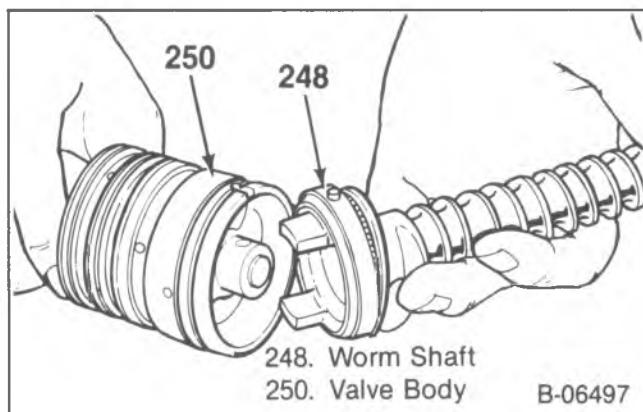
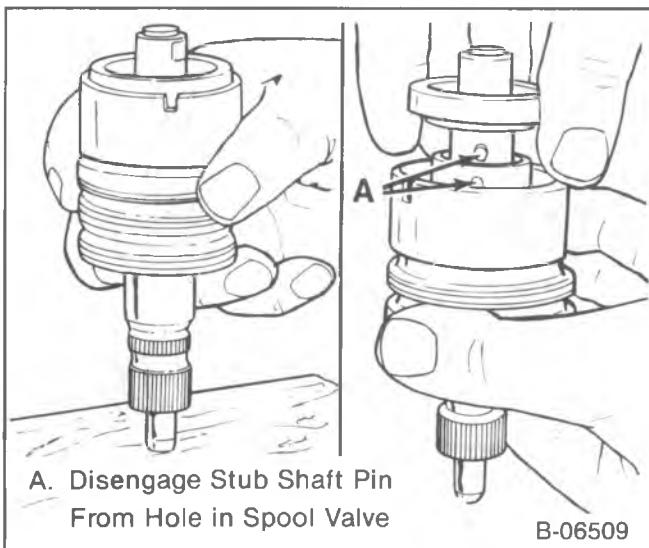
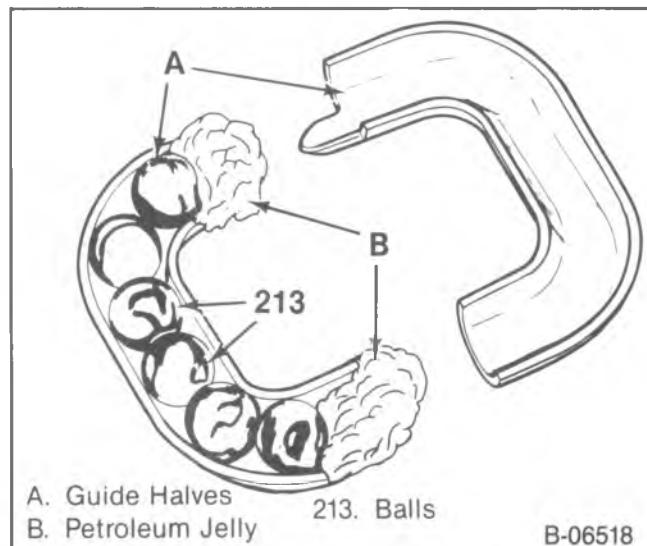

Figure 9—Separating the Wormshaft from the Valve Assembly
Figure 10—Removing or Installing the Stub Shaft Assembly
Figure 14—Retaining the Balls in the Ball Guide
13. Valve (250) and wormshaft (248) as an assembly, with both races (246) and bearing (247).
- Wormshaft (248) from valve assembly (figure 9).
- Races (246) and bearing (247) from the wormshaft (248).
- Seal (249).
14. Stub shaft (251) from valve body (250) (figure 10).
- 3. Balls (213), alternating by color, in the ball guide (212) (figure 14).
4. Ball guide (212), clamp (211) and screws (210) to the rack piston (214).
5. Stub shaft (251) into the valve body (250) (figure 10).
- Lubricate the stub shaft (251) with power steering fluid.
6. Valve spool (252) and seals (230, 231) into the valve body (250).
- Lubricate the valve spool (252) and seals (230, 231) with power steering fluid before assembling.